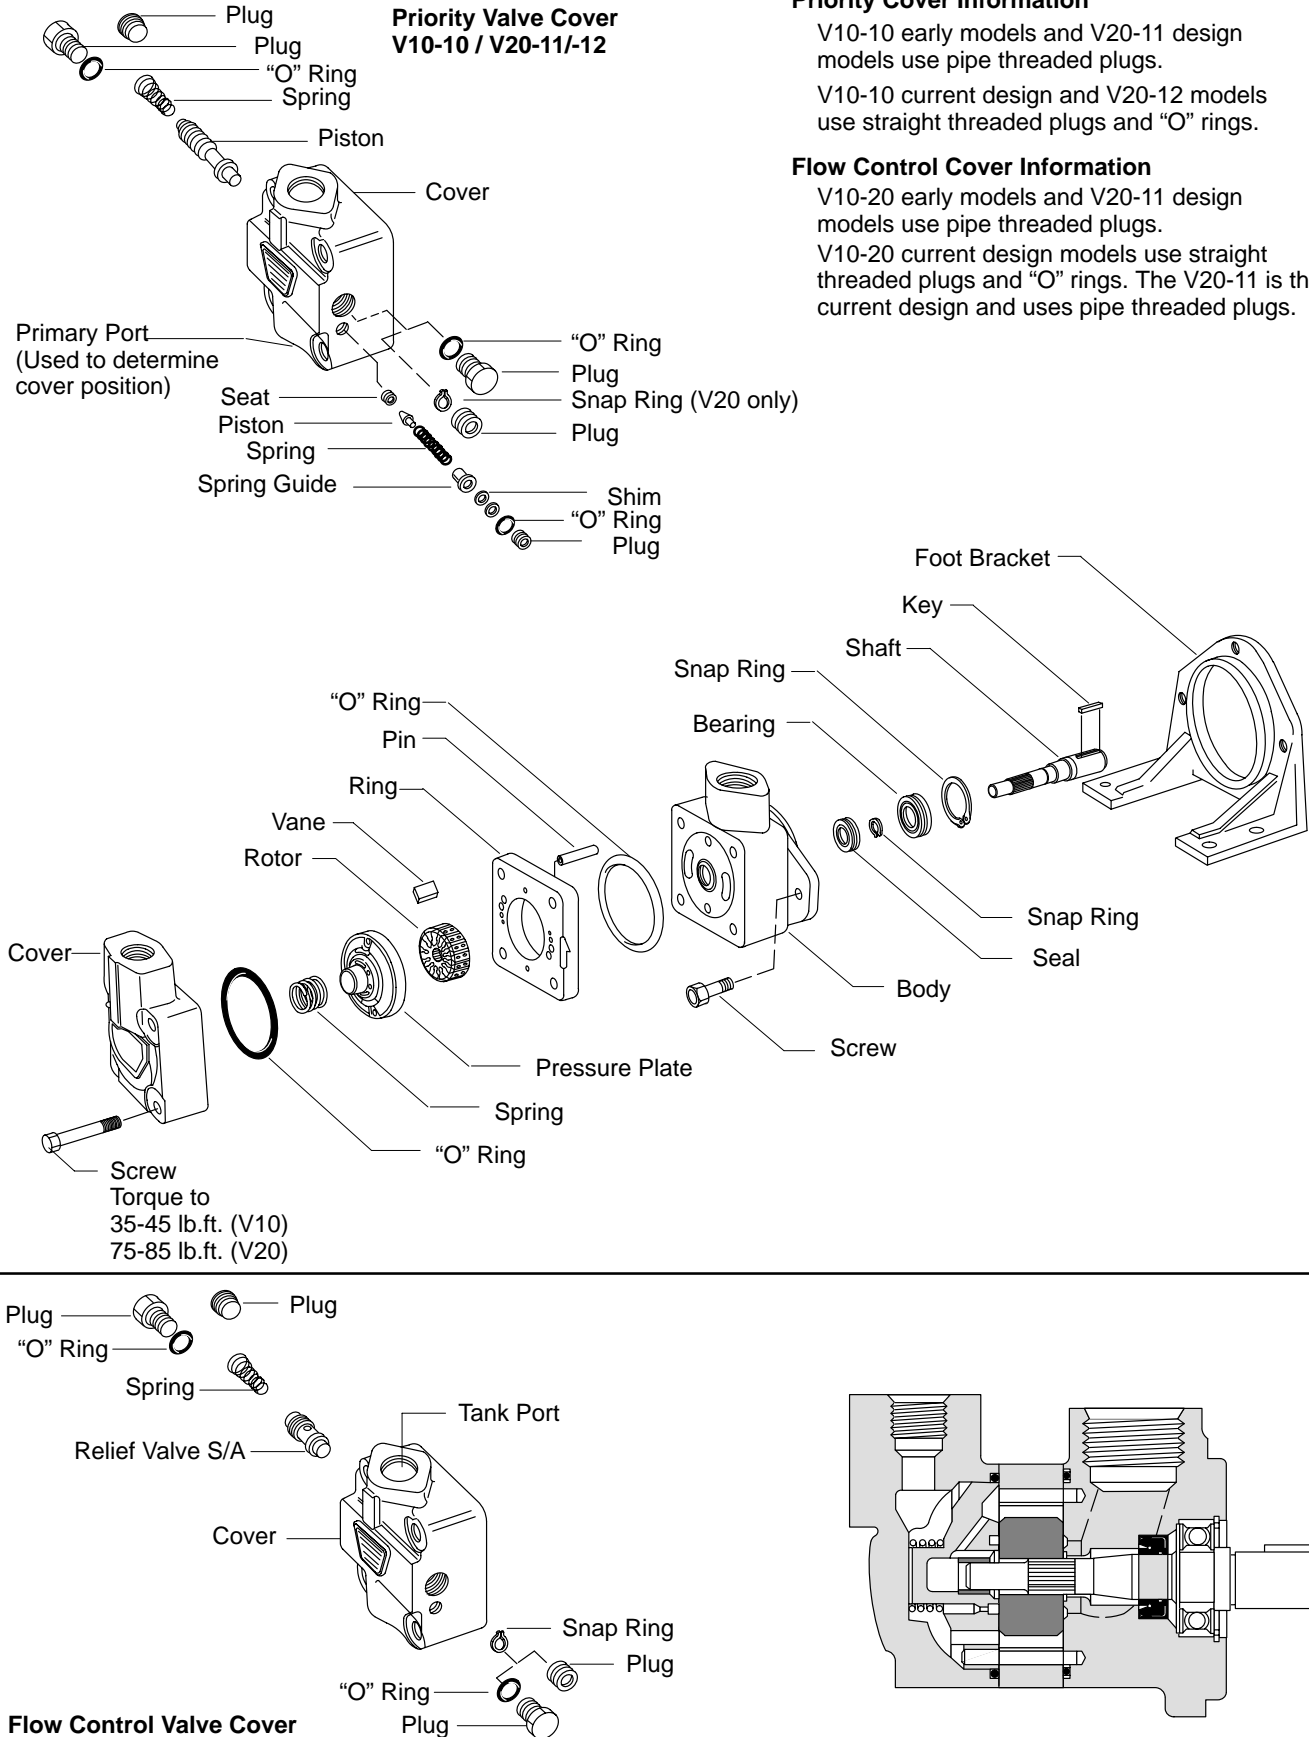

Figure 8.
Pump bearings are pressed in the bodies or on the shafts and should not be removed unless defective. Figure 8 is an exploded view which shows the proper relationship of the parts for disassembly and assembly. Refer to Figure 1 and Figure 8 for the correct assembled relationship of the parts.
1. Disassembly of Basic Pump – See Figure 8. If a foot bracket is used, remove before dismantling the pump. Clamp the pump body in a vise (not too tightly), cover end up, and remove the four cover screws. Note the position of the cover port with respect to the body port before lifting off the cover and “O” ring. (See paragraph 2 for disassembly of flow control covers and paragraph 3 for disassembly of the priority valve covers).
2. Disassembly of Flow Control and Relief Valve Covers – See Figure 8. Remove the plug and “O” ring from the snap ring side of the cover. Then remove the plug and “O” ring that releases the spring and relief valve S/A. Insert a suitable tool from the snap ring end of the bore.
3. Disassembly of the Priority Valve Cover – See Figure 8. Remove the plug, “O” ring and spring from one end of the priority valve bore, and the plug and “O” ring from the other end of the bore. Insert a suitable tool into the snap ring end of the bore (Snap ring used with pipe thread plugs only) and slide the priority valve spool from the cover. If the snap ring exists, remove it from the cover. Disassemble the relief valve by removing the plug, spring, poppet and shims. On later designs a spring guide is used. See Figure 8. DO NOT remove the seat unless inspection of the poppet contact area reveals a problem in the seat area. If removal of the seat is required, thread the seat with a suitable tap approximately 3/8 inch into the seat. Thread a long bolt into the seat and pull the bolt and seat from the bore with a small gear puller.
- Assembly of Flow Control Cover – See Figure 8. Assemble the snap ring in place within the bore, (early design only) seat firmly in the groove. Insert the valve in the bore, smallest land first. Then install the spring and both plugs. Use new “O” rings if straight thread plugs are used.
- Assembly of Priority Valve Cover – See Figure 8. If the relief valve seat was removed, a new seat must be pressed into the body. Lubricate and insert the new seat chamfered end first into the cover opening. Align square and press into place. Use a short length of brass rod as a pressing tool, to prevent seat damage. Clean the relief valve bore to remove chips and filings. Insert the poppet into the bore, align square and lightly tap the stem of the poppet to mate the poppet and seat. Install the spring, shims and plug into the cover. (Later designs use a spring guide and straight thread plug with “O” rings). Be sure to check the pressure setting of the relief valve against the model code. If the setting is out of tolerance, readjust by removing or adding shims. (Removing shims reduces pressure while adding shims increases pressure.)
priority valve spool, small land first, into the bore. Install plugs at each end of the bore and secure. Refer to Figure 8 for spool orientation.
- Assembly of Pump – See Figure 8. Begin assembly by pressing the shaft into the front bearing while supporting the bearing inner race. Install the small snap ring on the shaft.
Place the pressure plate on the locating pins and flat against the ring. Place the spring over the pressure plate and then install the cover with the outlet port in the correct position. Tighten the cover screws to the torque shown in Figure 8. Rotate the shaft by hand to insure that there is no internal binding. Install the shaft key.